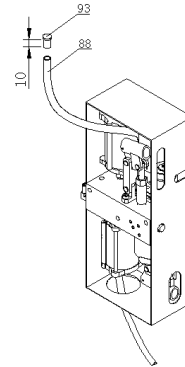

Fig. 2
To avoid oil spillage from the oil hose (88), a plug (93) has been added in the oil hose when packing. To remove the plug, cut the oil hose with the plug about 10mm length. (refer to fig.2)